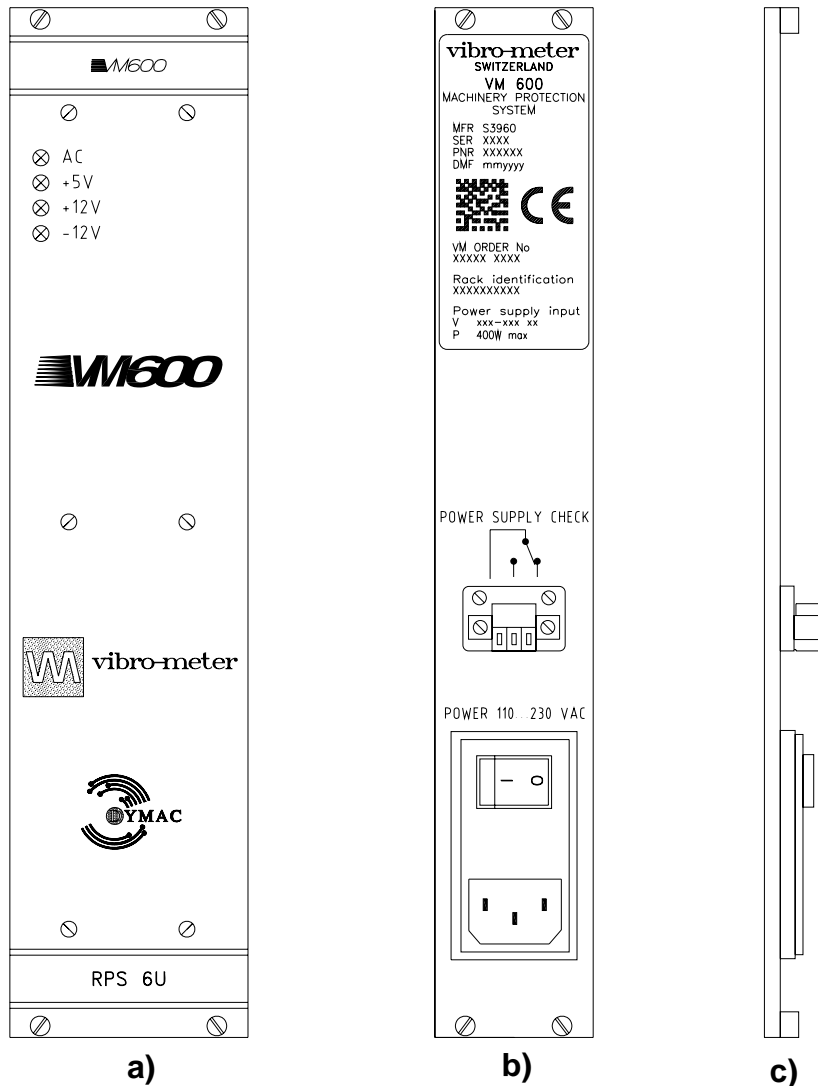

Figure 2-6 : The RPS 6U rack power supply unit intended for use with an AC mains supply
- An RPS 6U unit intended for use with an AC mains supply and having an associated rear panel with an AC mains socket (see Figure 2-6)
Figure 2-6 shows: